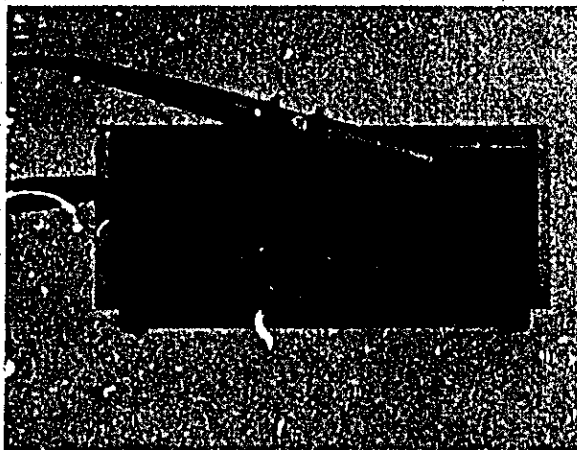

Figure 5-5. Contact Resistance Check (1)
- c. Connect the Model 4328A to upper terminals at INPUT and OUTPUT as shown in Figure 5-5 using 16005A Clip-Type probes.